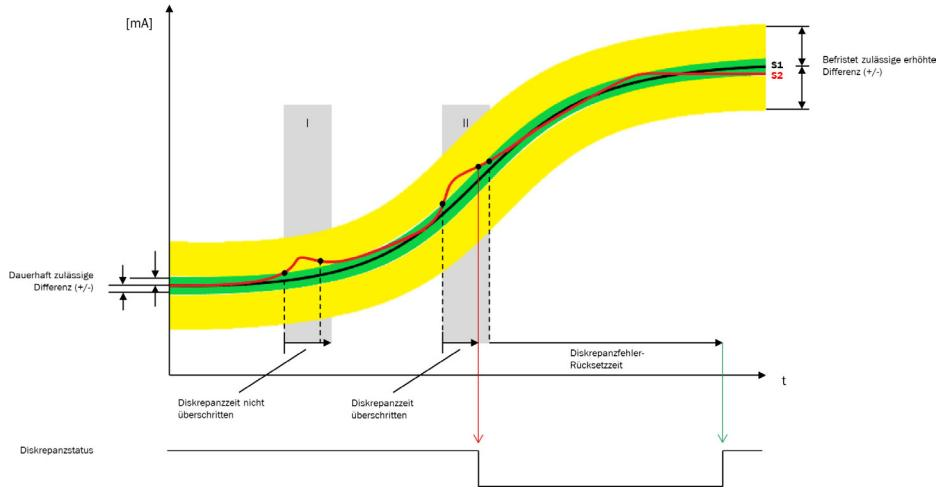

Figure 322: Exceeding the unlimited permissible difference and discrepancy time
- The measured values from sensor AI1 and sensor AI2 deviate from one another for longer than the configured **Discrepancy time** and by more than the **Permanently permissible difference**, without the configured **Limited permissible increased difference** being exceeded (figure 322, case II).